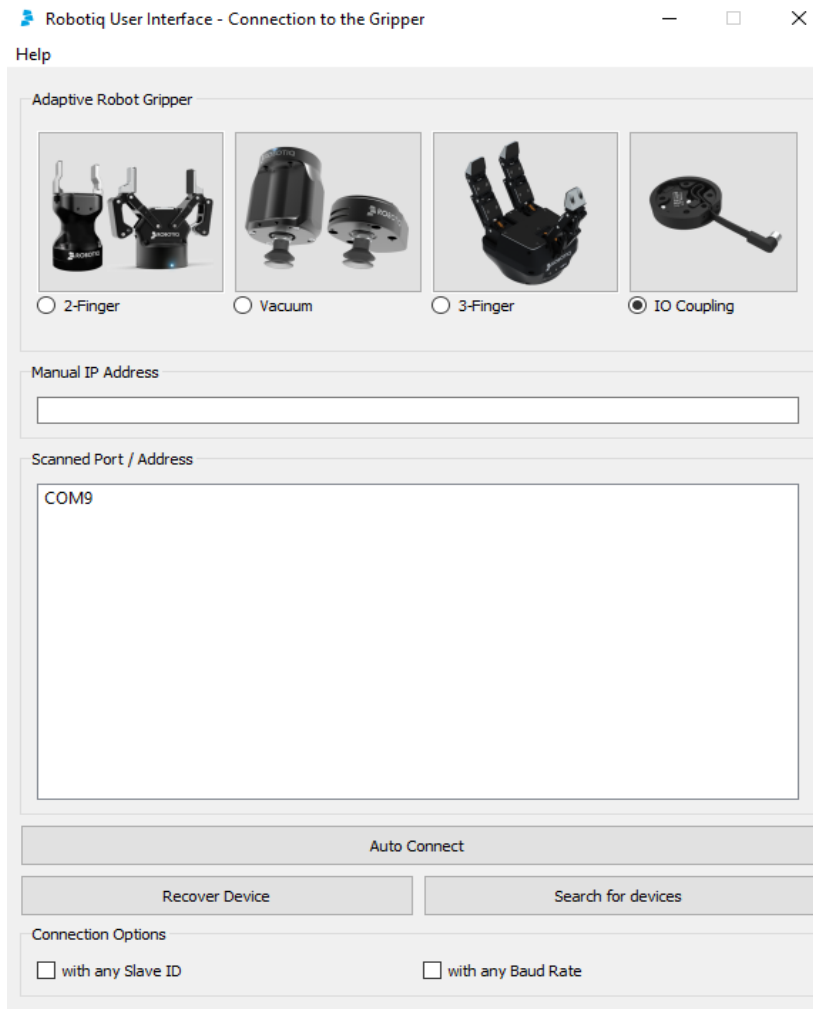

Fig. 4-2: Device found (COM9 in the Scanned Port / Address section).
7. Start the Robotiq User Interface on the computer. Select the I/O Coupling in the list and connect to the Coupling using the **Auto Connect** option (see Fig. 4-2:). If the firmware of the coupling or the gripper needs to be updated, a pop-up message will notify the user.
3. Start the Robotiq User Interface on the computer. Select the I/O Coupling in the list and connect the Coupling using the **Auto Connect** option (see Fig. 4-2). If the firmware of the coupling needs to be updated, a pop-up message will notify the user.
After accepting the Terms of Service, you will be granted access to the Robotiq User Interface connection screen. You need to connect to the Robotiq Gripper you will be using (see Fig. 4-2:).
- a. You can **manually** enter the **IP address** for the Modbus TCP connection or leave it blank for **Auto-Connect**. You can also use **Search for device** if you want to determine if a Robotiq Gripper is detected Fig. 4-2: shows the Robotiq User Interface start page.